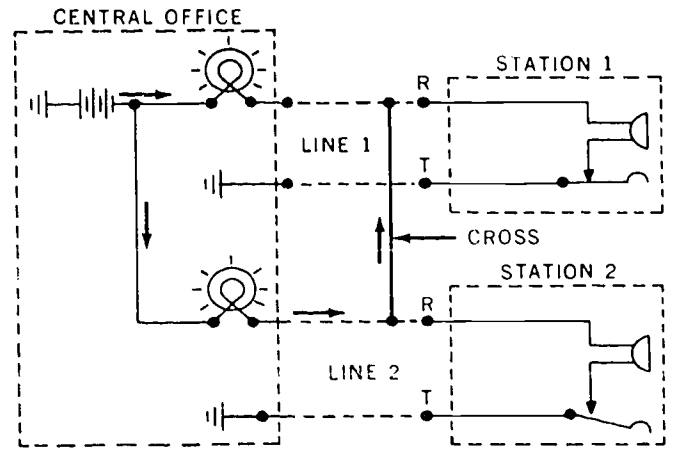

Figure 5-10. Ring-ring cross.
d. Ring-to-ring. A ring-to-ring cross between the ring conductors of adjacent pairs causes a false signal on one line when a station is operating. You can see in figure 5-10 that the line lamps in both circuits will operate when the hookswitch at either station is closed. You can also see that the hookswitch in station 1 is closed and the one in station 2 is open. The results would be the same, however, if the hookswitch in station 2 were closed and the one in station 1 were open. When ringing current is sent to either station, it rings the bells of both telephone sets. A ring-ring cross may be reported by either the telephone station or central office personnel.